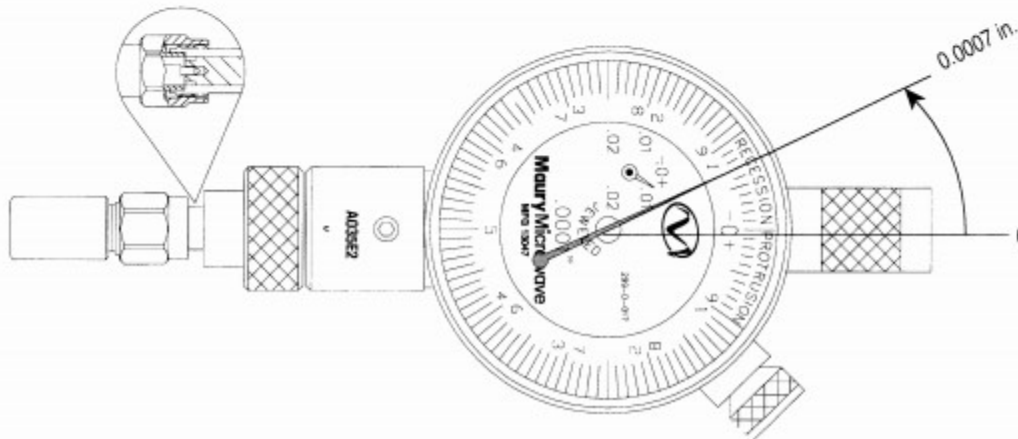

Figure 10. Zero Setting for 1.85mm and 2.4mm Male Connectors
***Procedure: Refer to Figure 10***